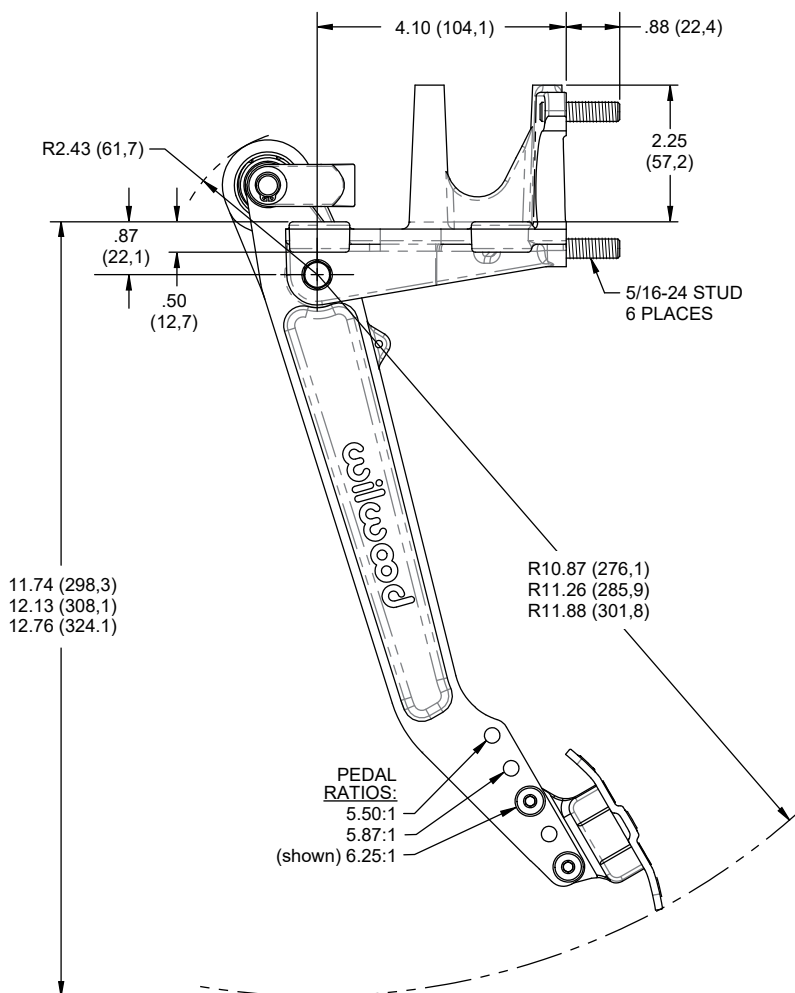

Figure 1a. Reverse Swing Mount Dual Pedal Assembly, Physical Dimensions, 5.50:1 to 6.25:1 Ratio (P/N 340-16386)
•Wilwood's reverse swing mount dual pedal assembly must be mounted using the four .35" diameter outboard tab mounting holes as shown in Figures 1a & 1b. Attach the pedal assembly to two sturdy beams or plates with four 5/16" bolts. Pedal assembly must be rigidly attached to frame and not deflect under heavy pedal forces. **NOTE:** Pedals must be free from obstructions over their entire range of motion. Allow enough space so Tru-Bar balance bar adjustments can be made and master cylinders are accessible.